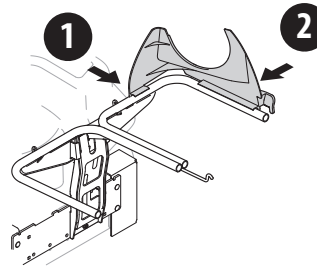

Figure 12
1. Snap the upper chute support (731-06497) in place by first clipping the side portion onto the hanger assembly rail (1), as shown in Figure 12.
2. Snap the front side of the upper chute support to the rail (2), as shown in Figure 12.